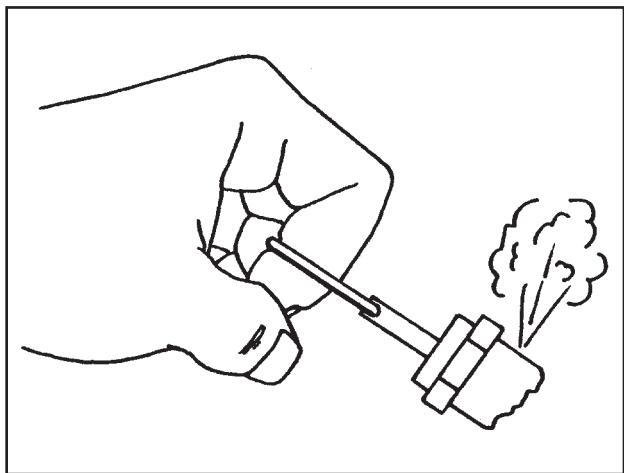

Fig. 3-4 Checking Pressure Relief Valves^{Pix 1160}
- Step 2** Tank(s) subjected to freezing temperatures may contain ice. Store the compressor in a heated area before attempting to drain moisture from the tank(s). Reduce the air pressure in the tank to 30 PSIG by pulling the pressure relief valve ring (refer to **Fig. 3-4, Checking Pressure Relief Valves & Relieving System Pressure**).